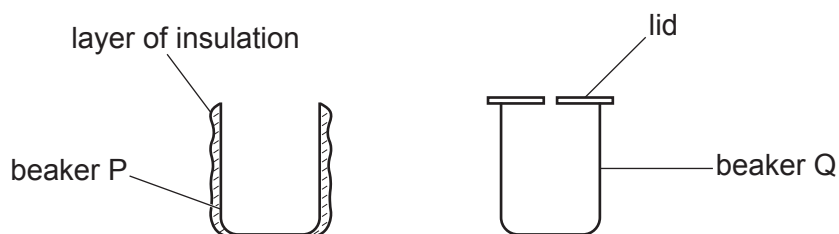

Figure 2.1
- 2 The beakers should be supplied as shown in Figure 2.1. Beaker P must have a layer of insulation made from newspaper, cotton wool, corrugated cardboard or similar, approximately 5 mm thick, and fixed to the outside of the beaker with rubber bands or tape.